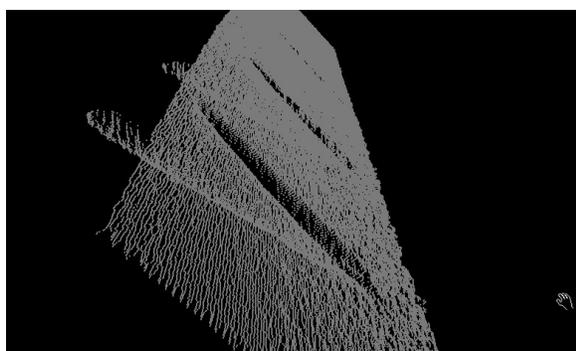

**Figure 4:** Novacam's optical galvo (raster) scanners come in several sizes of field-of-view.
**Galvo (raster) scanners** (Figure 4) provide the most efficient line-by-line scanning of micro-machined surfaces. With these scanners, dimensional profiles of EDM- or laser-machined slots or holes on open surfaces are acquired in seconds. The cooling holes micro-drilled on the